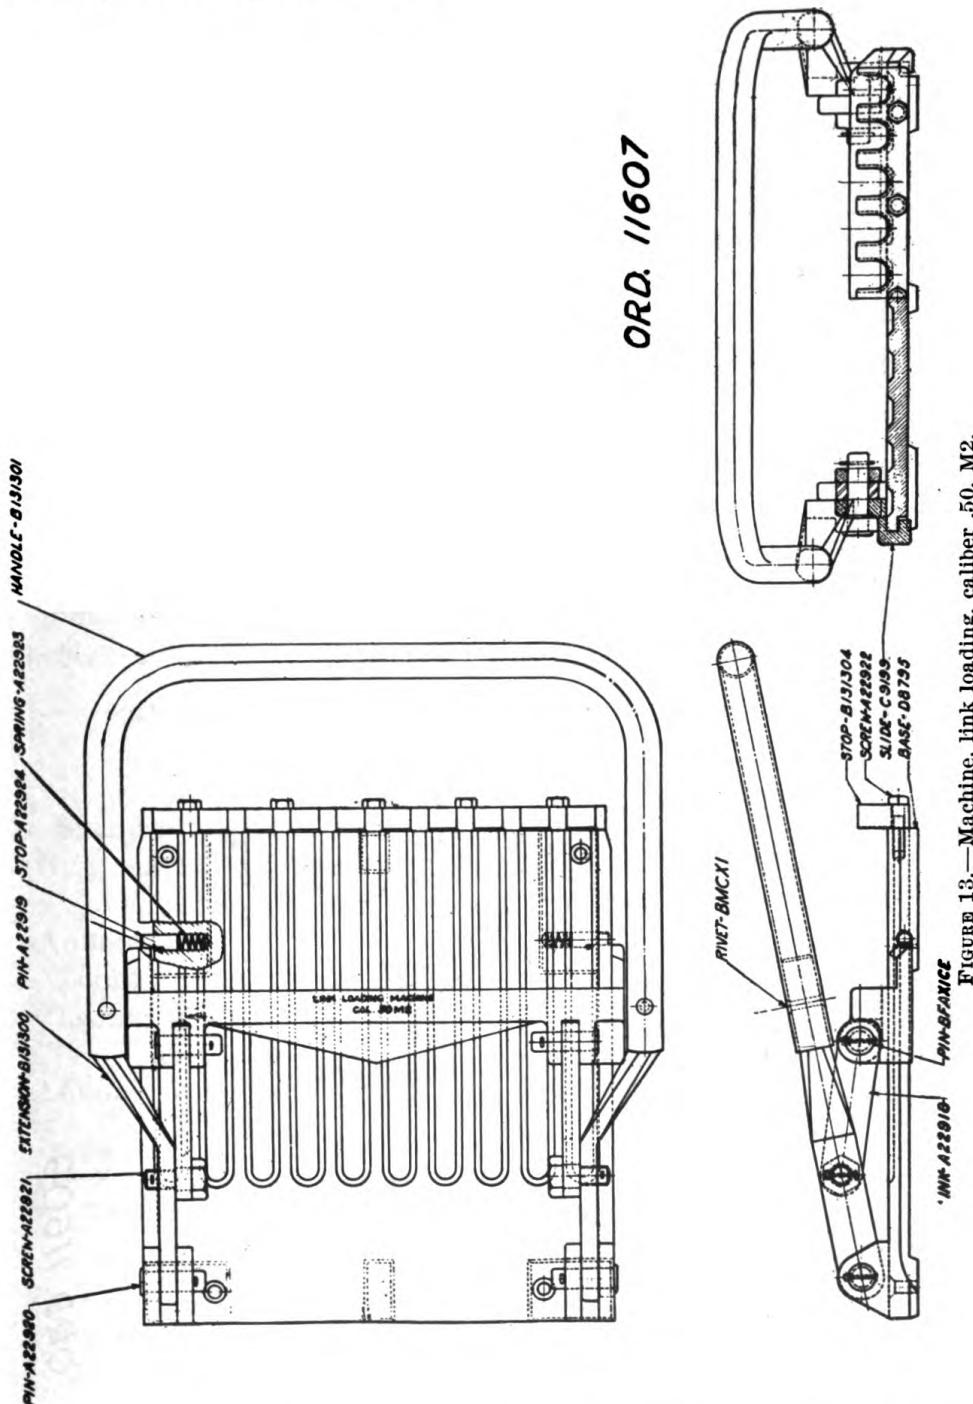

FIGURE 13.—Machine, link loading, caliber .50, M2.
*d. Machine, link loading, caliber .50, M2.*—The link loading machine (fig. 13) is used for rapid loading of ammunition into metallic links. When in use, it may be screwed to a bench, ammunition box, or other suitable support, screw holes being provided in its base for this purpose. Links, properly assembled, are placed on the loading bed adjacent to the U-shaped stops and cartridges are placed in the grooves provided. The loading is performed by the operation of the loading handle which, when pushed forward to the stop, will load the cartridges to the correct depth in the links. Care should be taken to properly handle that portion of the loaded belt adjacent to the section being loaded.